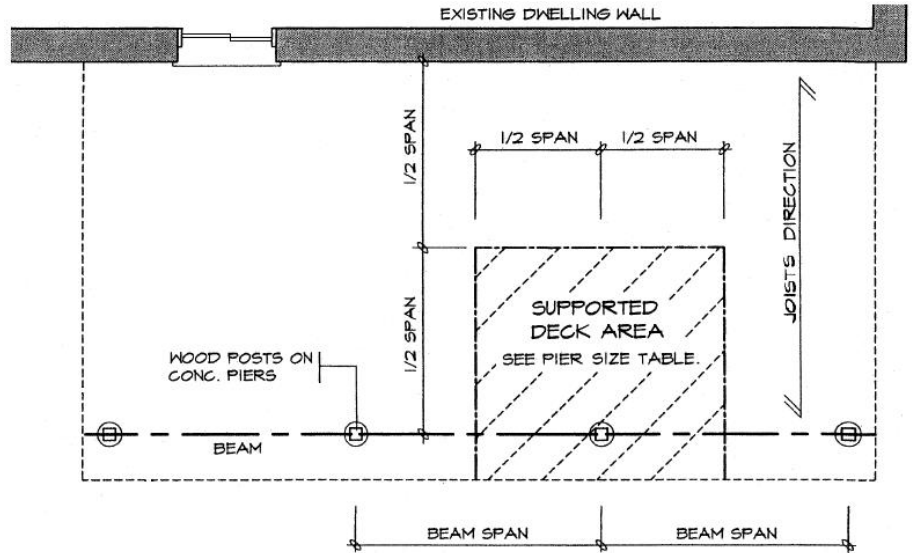

Fig.1 How to calculate the actual supported deck area for a post.
4. Calculate the *actual supported deck area* on a post in your plan as per **Fig 1**. (*Supported Deck Area:* Area enclosed by half of the spans on each sides of the post including cantilevered area.)